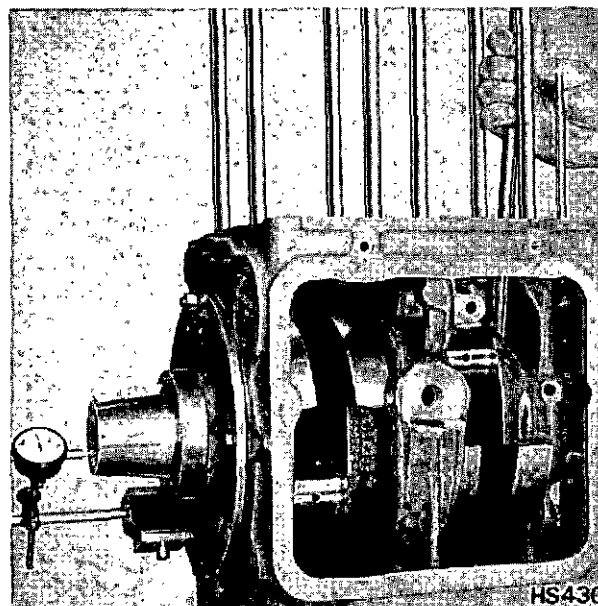

Fig. 65 Checking Crankshaft End Float
- (g) Check crankshaft end float (Fig. 65).